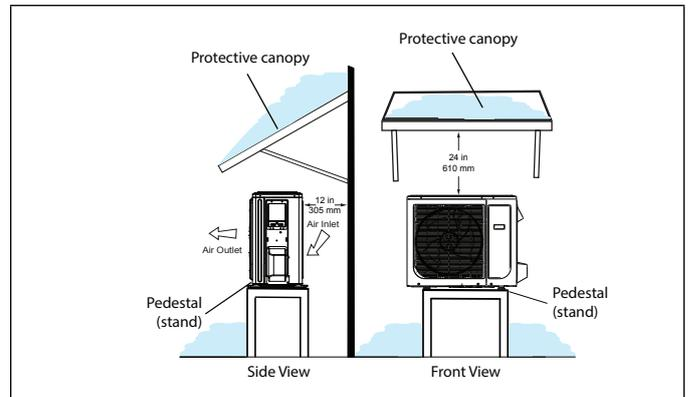
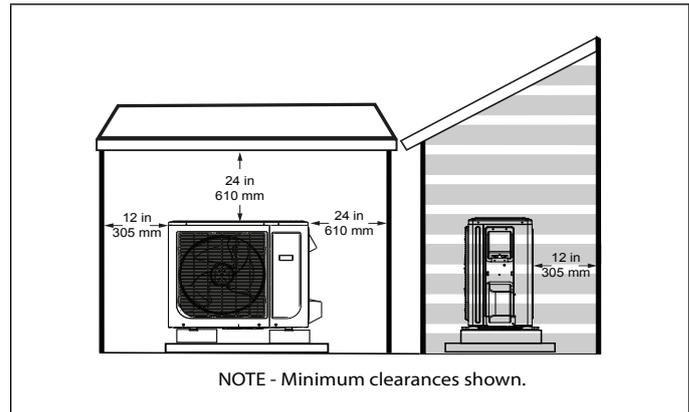

Figure 18. Outdoor Unit on Pedestal and Protective Canopy
Figure 19. Dog House-Style Shelter
- If the outdoor unit is subjected to prolong exposure to direct sunlight with temperatures over 100°F (38°C) a canopy is recommended as illustrated in "Figure 18. Outdoor Unit on Pedestal and Protective Canopy" or "Figure 19. Dog House-Style Shelter".
- Place unit away from overhanging roof lines which would allow water or ice to drop on, or in front of, coil or into unit. Construct a canopy as illustrated in "Figure 18. Outdoor Unit on Pedestal and Protective Canopy".